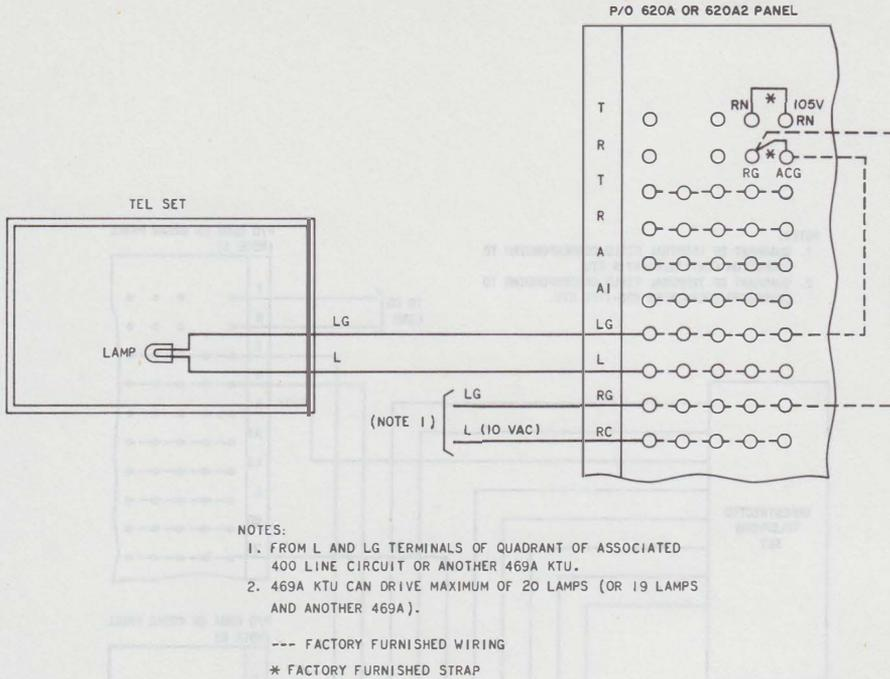

Fig. 23—469A KTU Connections (Lamp Extender) in 620A or 620A2 Panel
G. 469A KTU—Lamp Extender (Fig. 23)